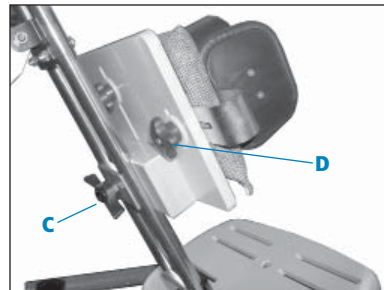

Figure 7b
**Note:** When replacing the knee board, wooden clamp block goes down, and the slot for abductors up (see Figure 7b).